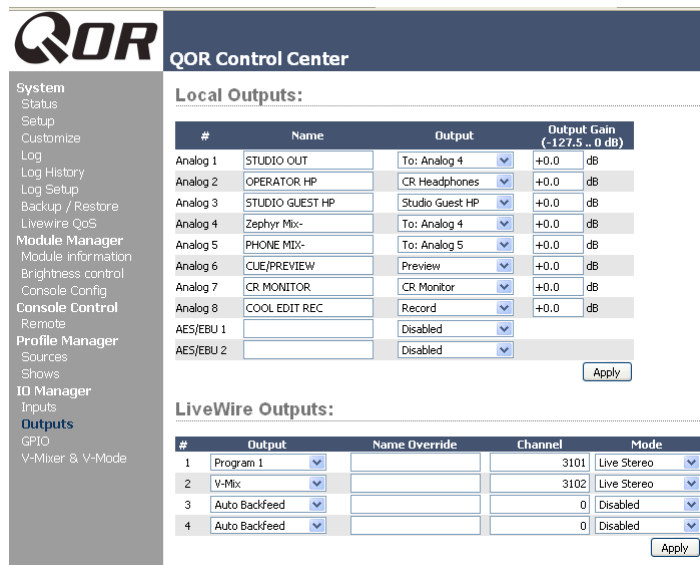

Figure 2-6: Assigning an Output from the list box
2. Use your Web browser to connect to the iQ Outputs screen (Figure 2-6) and set up the mix-minus for Output #5.
down selector. Click on the drop-down for output #3 and choose **to Analog 5** as shown in Figure 2-6. By simply choosing **to Analog 5**, iQ knows to deliver a backfeed that is a mix-minus of Analog Input 5. (The output chosen to deliver this backfeed is arbitrary - we chose Output 5 just for this example.)